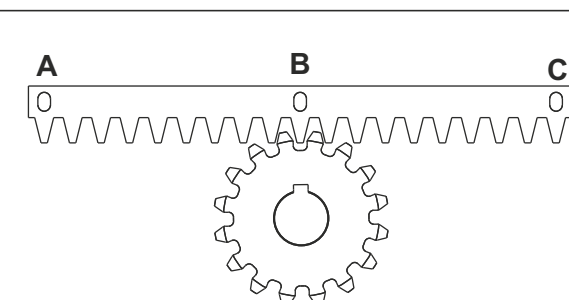
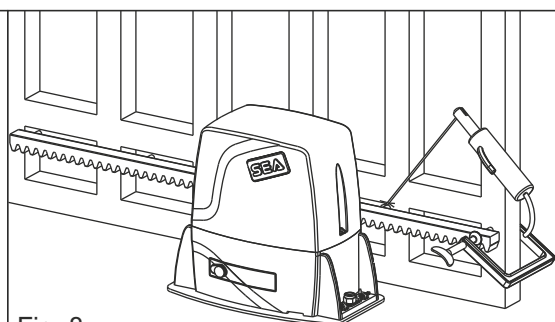

Fig. 7
Fig. 8
**5.3.** Lean the gear rack element on the toothed pinion of the operator in parallel to the ground slideway of the gate, as shown in Fig. 7 and electrically weld the central pawl **B** to the gate structure (Fig. 8). Manually move the gate until pawl **C** is placed in front of the pinion and fix it through electric welding. Repeat the same procedure for pawl **A** after having placed it in front of the pinion;